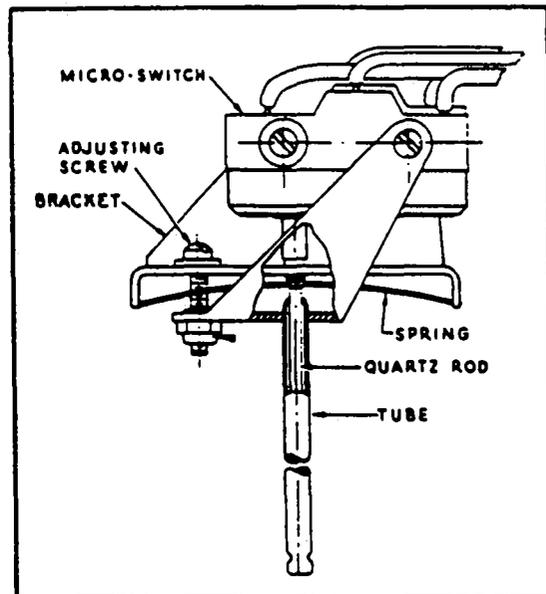

Figure 13-9. Flame Detector Switch (Cutaway View)
13-21. FLAME DETECTOR SWITCH. The purpose of the flame detector switch is to shut off the igniter and fuel preheater as soon as combustion has been established within the heater, and to provide a "purge" cycle after the heater is shut off. This switch consists of a hollow probe upon which is mounted a bracket and micro switch mechanism. The hollow probe contains a quartz rod which has a low rate of expansion when heated. (Refer to Figure 13-9.) The end of the quartz rod actuates the plunger of the micro switch. A leaf spring between the rod and plunger is provided to maintain a pressure through the rod against the end of the tube.
- b. Back off the adjusting screw (Refer to Figure 13-9.) until the switch clicks.